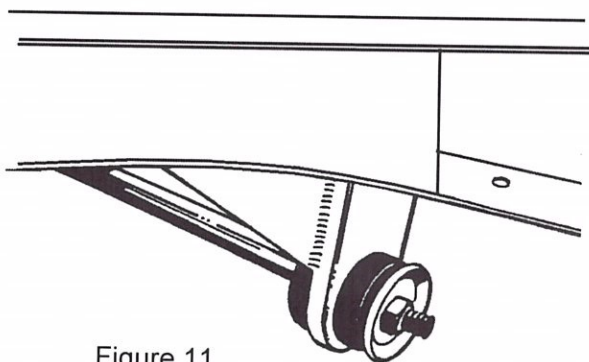

Figure 11
12. Install the strut rod onto the control arm. Now, assemble onto the strut rod the large rubber bushings, including the cupped washers, and the strut mount plate. Be certain to fully tighten the nut on the strut rod to its' fully seated position. (See Figure 11) There are two rubber bushing sets available; the standard replacement and the improved set. We recommend the improved set, as it provides more stability to the front suspension. The Pinto and Mustang strut rods are different lengths. We recommend the use of Pinto strut rods, as they are bent less than the Mustang strut rods. You will find that with either strut rod the strut rod plate does not line up with the bottom of the frame rail. The strut rod must be heated in the elbow area and bent outward. The rod is bent outward until the strut mounting plate lines up to the frame rail. You will find that because the Pinto strut rod is initially bent less and requires much less bending. The strut rod will act as an alignment fixture while you tack weld the mount plate in place, then tack weld the gusset in place. Remove the strut rod, bushings, and arm, and finish welding to the frame and each other.